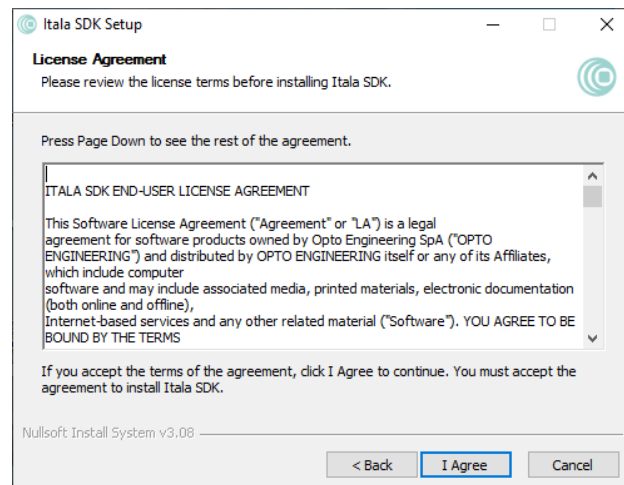

Figure 7: Itala SDK licence agreement window.
3. Check the licence terms before installing Itala SDK (Fig.7).